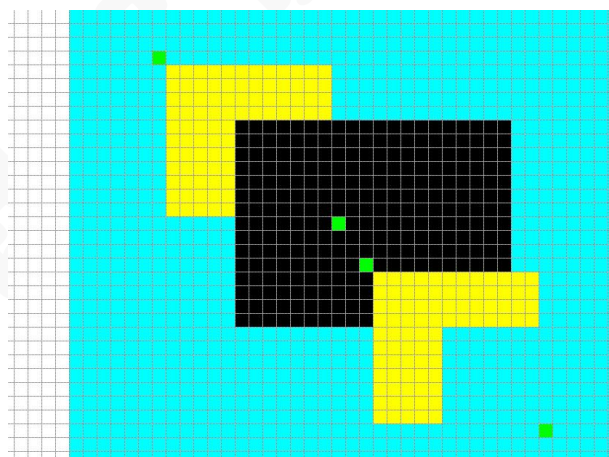

Figure 6-13
2. Copy the mapped part of the source picture area - Copy all the graphical parts (non-black parts in the original picture) in the selected area to the target area, as shown in Figures 6-13;